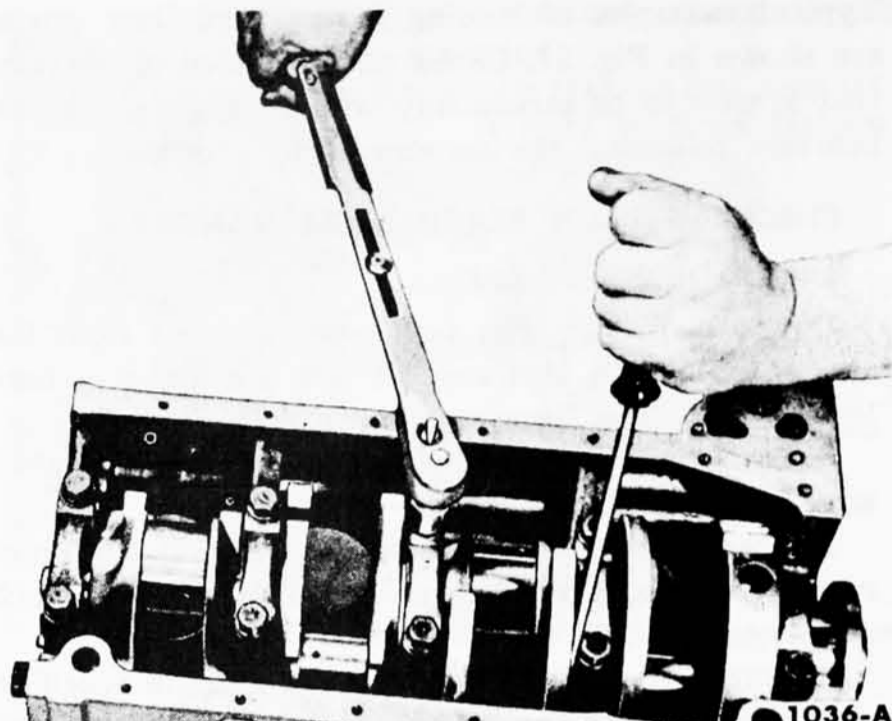

Fig. 33—Tighten Cap
4. Retain the forward pressure on the crankshaft, and tighten the cap bolts to specifications (Fig. 33).